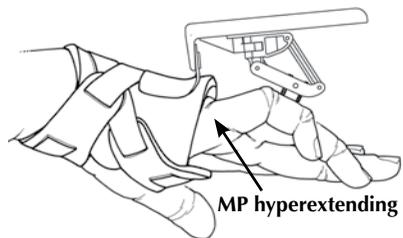

Fig. 12
Some patients with PIP flexion contractures may also hyperextend at the knuckle (MP) joint. When the MP joint goes backwards (Fig. 12), some of the extension force at the PIP joint is lost. To control MP hyperextension, an MP Flexion Strap is included. Use this strap only on the direction of your surgeon or hand therapist.